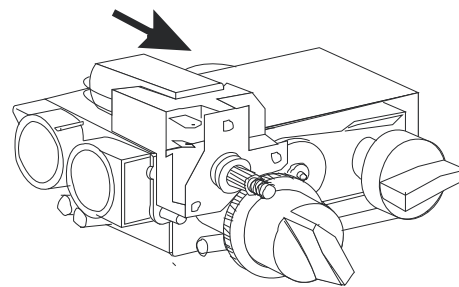
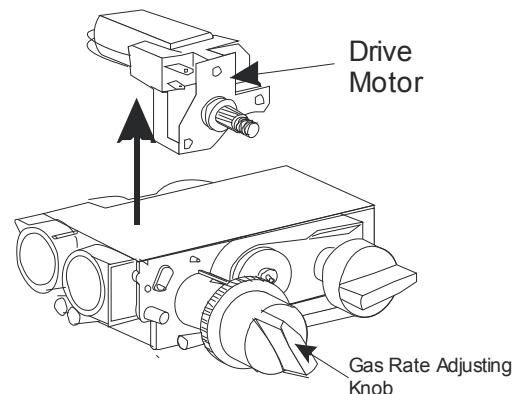

Figure 36
Figure 37
6. Turn the gas rate adjusting knob fully anticlockwise and gently manipulate the motor free from the valve (see note, **Figure 36** and **Figure 37**).